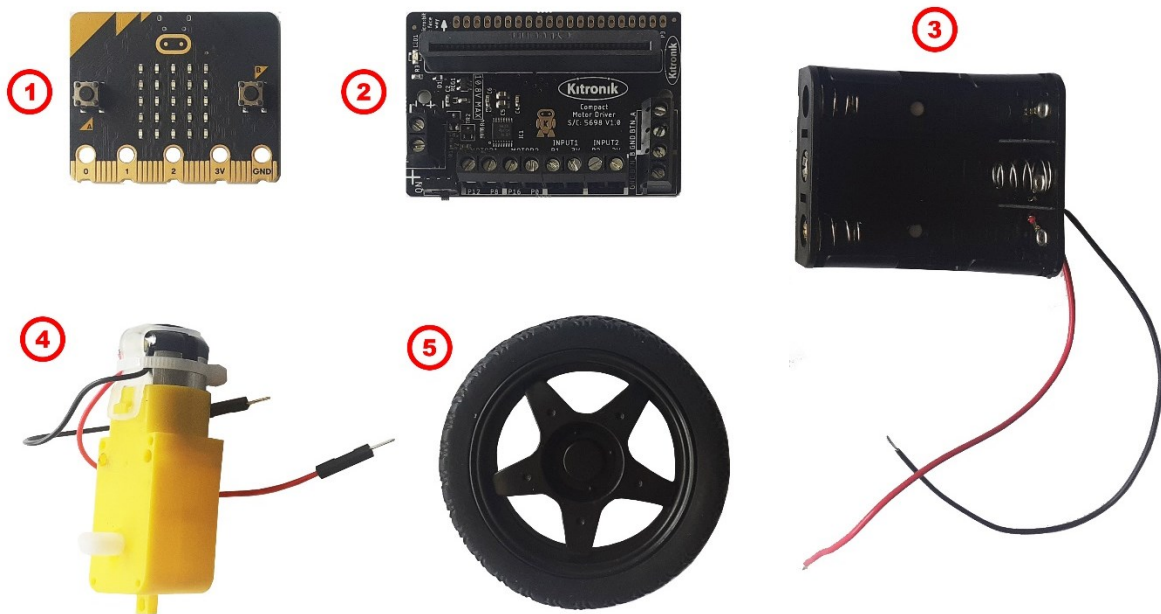

Figure 1: The electronic components needed for creating the robotic car
Figure 1 presents the basic electronic components that you need for creating the robotic car. In particular, you will need a BBC micro:bit microcontroller (1), a Kitronik Compact Motor Driver (2), a 3AA (or 4AA) battery holder (3), 2 DC gear motors (4) and 2 wheels (5).